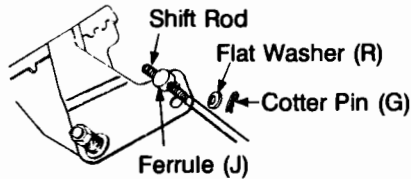

FIGURE 15 - Shift rod assembly for models with steerable option.
- Place the shift lever in the fastest forward position. Push the shift rod down sharply, as far as it will go, to put the drive into the fastest forward position. Thread the ferrule in or out on the shift rod as necessary until the ferrule lines up with the upper hole in the shift lever. Insert ferrule into upper hole in shift lever, see Figure 15. Secure with flat washer (R) and internal cotter pin (G).